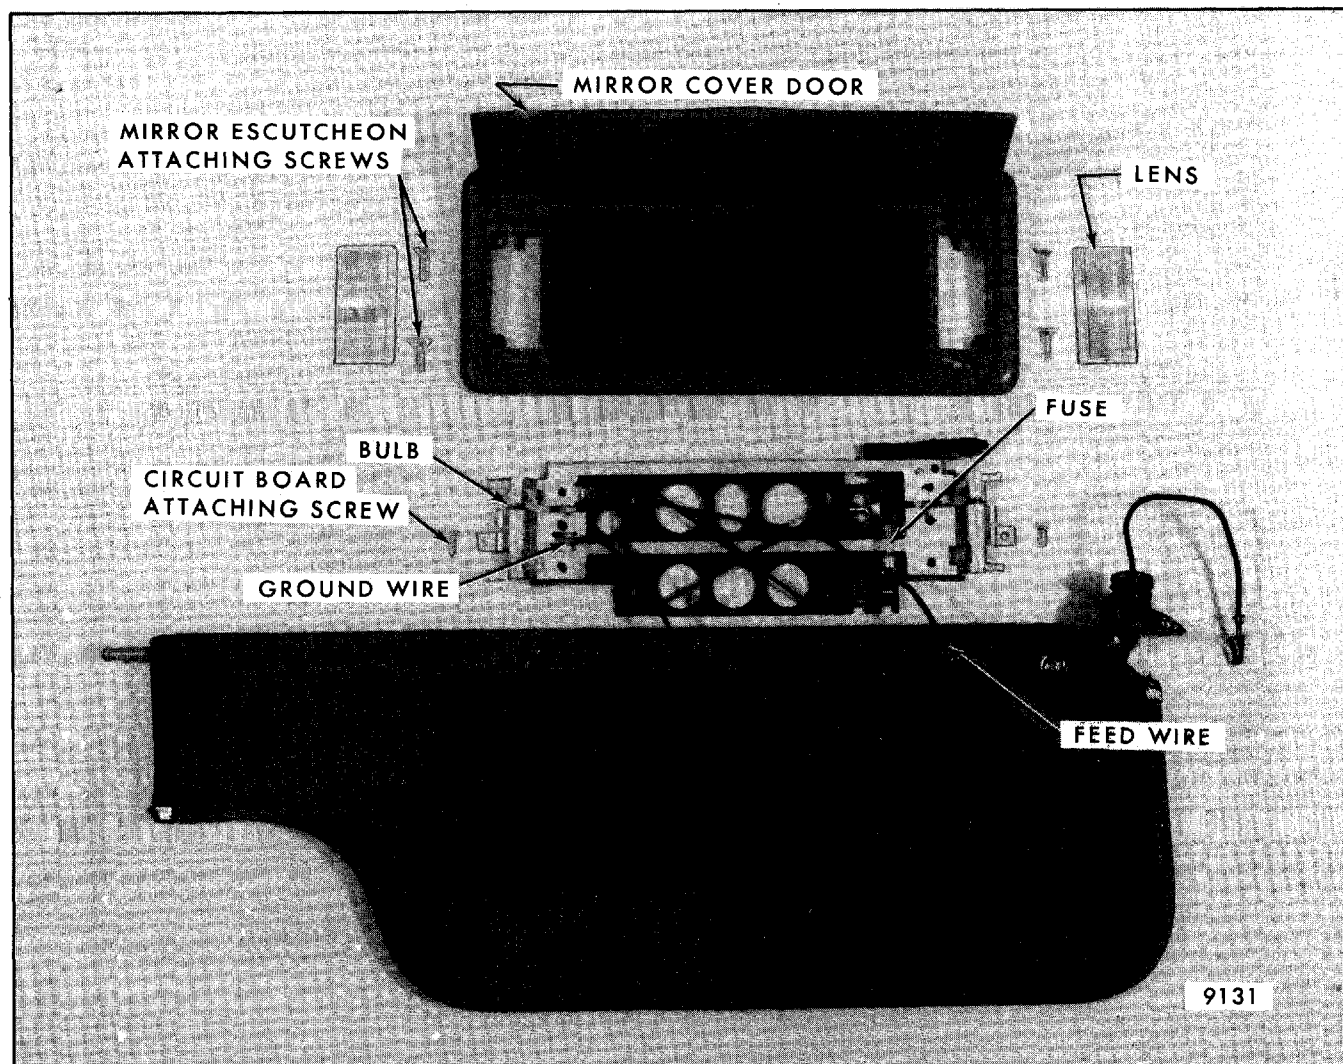

Fig. 8-11 - Vanity Mirror and Lamp Assembly
The vanity mirror lamp harness extends above the windshield opening to the top of the windshield pillar. At this point a connector attaches to the lamp harness (Fig. 8-11).
5. Disconnect feed and ground wire terminals (Fig. 8-11).